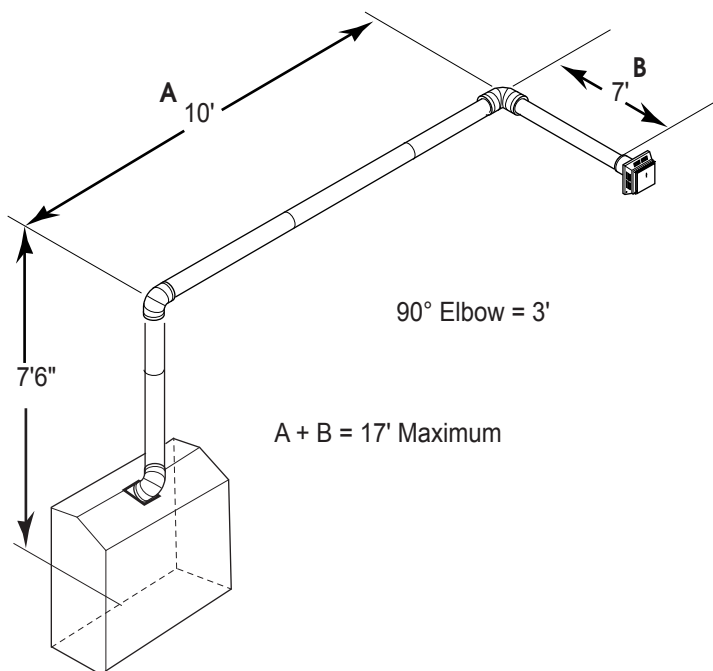

Figure 21 - Maximum Vent Run with Elbows
- If a 90° elbow is used in the horizontal vent run (level height maintained) the horizontal vent length is reduced by 36" (914 mm) (Fig. 21 A and B) This does not apply if the 90° elbows are used to increase or redirect a vertical rise. *See Figure 19.*
2. Remove soil to a depth of approximately 16" below base of snorkel. Install drain pipe. Install window well (not supplied). Refill hole with 12" of coarse gravel leaving a clearance of approximately 4" below snorkel. *See Figure 21.*